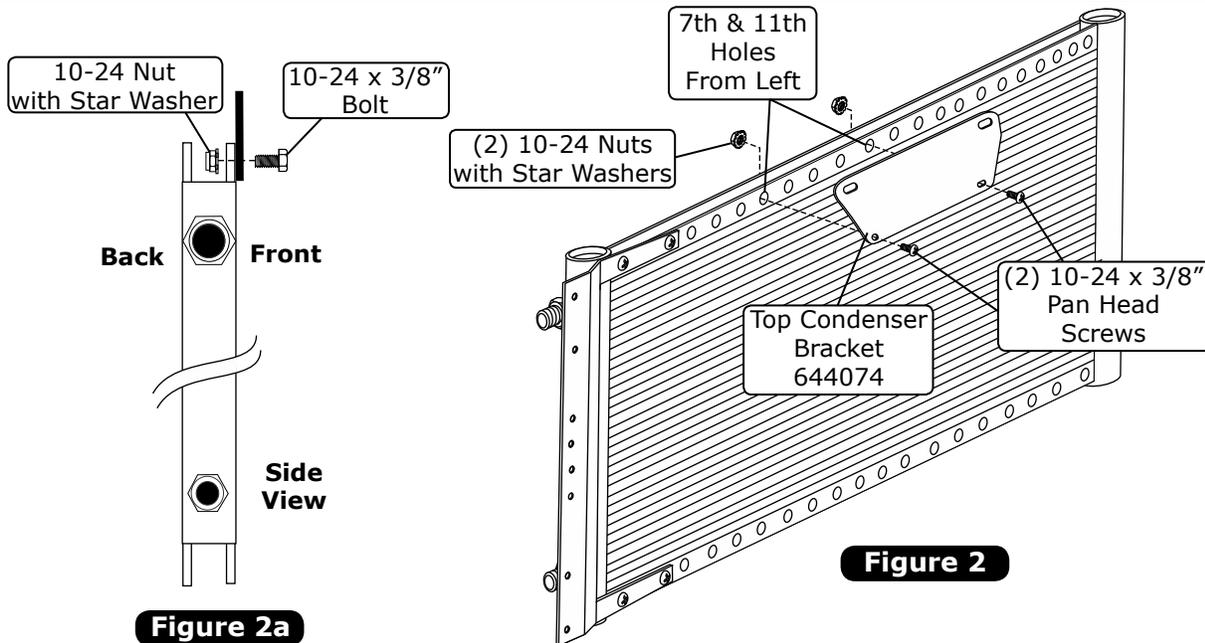

Figure 2
1. Install the top mounting bracket onto the condenser using (2) 10-24 x 3/8" pan head screws and (2) 10-24 nuts with star washers (See Figures 2 & 2a, below). **NOTE: The bracket mounts to the outside of the flange through the 7th and 11th holes from the left side of the condenser.**